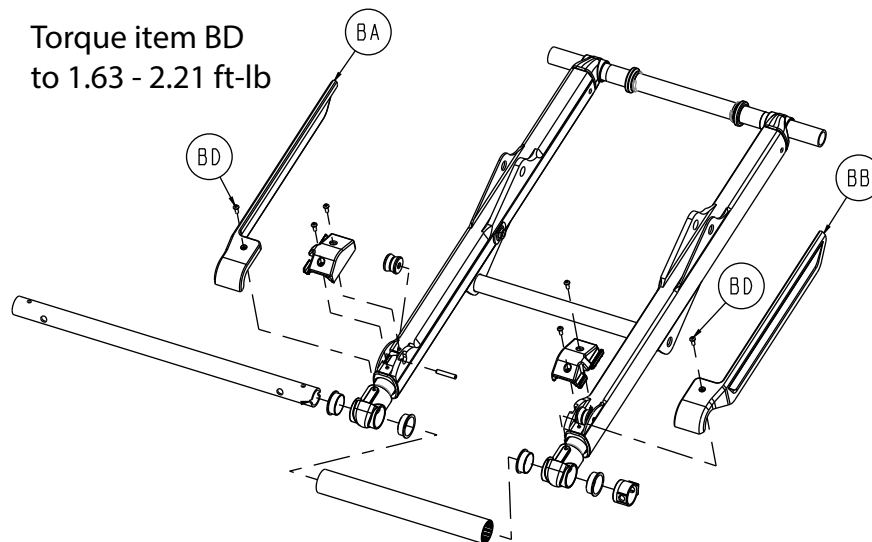

Figure 70 – Remove the base leg guard
- Using a T25 Torx driver, remove the screw (BD) that secures the base leg guard (BA, BB) (Figure 70). Remove and save the base leg guard. Save the screw.